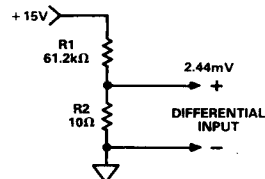

Figure 4. Input Connection for the R_{TO} Calibration
1. Connect the inputs to a 2.44mV supply, as in Figure 4.